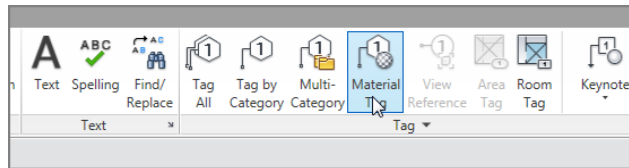

FIGURE 11.68: The Material Tag button on the Tag panel
3. On the Tag panel of the Annotate tab, click the Material Tag button, as shown in Figure 11.68.